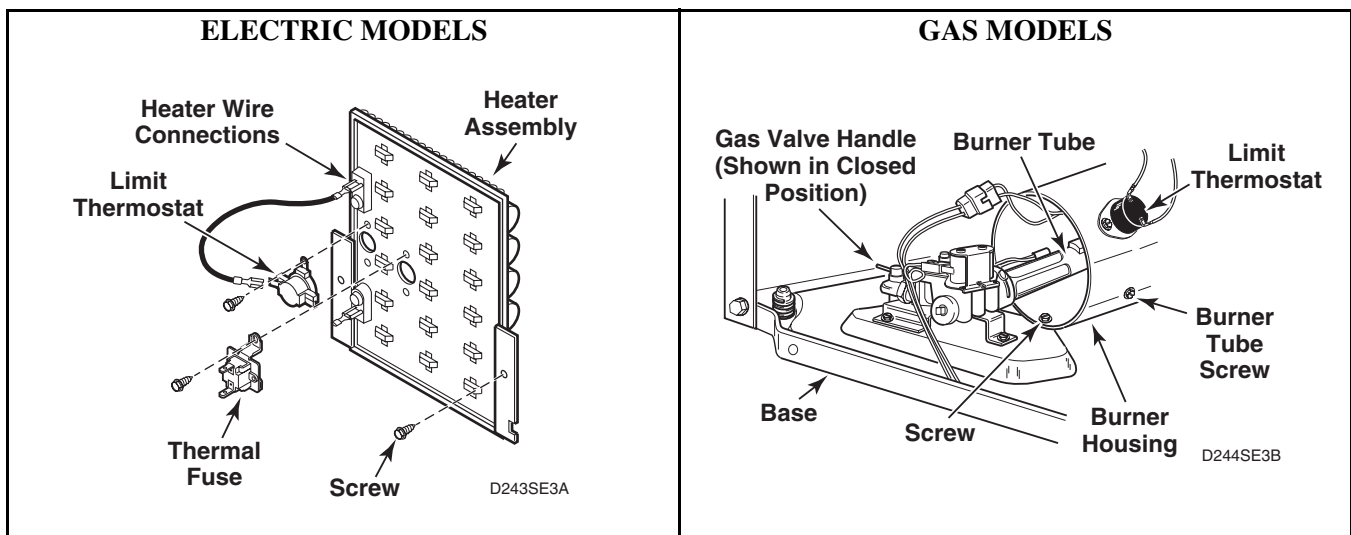

Figure 21
- (1) Remove one screw from right side of burner housing holding burner tube in place. Refer to *Figure 21*.
- d. Remove screw from right side of burner housing, while holding burner tube in place. Refer to *Figure 21*.
- i. Remove screw holding front of burner housing to dryer base and remove housing out through front of dryer. Refer to *Figure 21*.
- c. Disconnect wires and remove screws holding limit thermostat to burner housing (gas models) or element plate (electric models). Refer to *Figure 21*.
- c. Remove two screws holding heater assembly to heater box and remove heater assembly out through front of dryer. Refer to *Figure 21*.
- d. Disconnect wires from heater assembly. Refer to *Figure 21*.